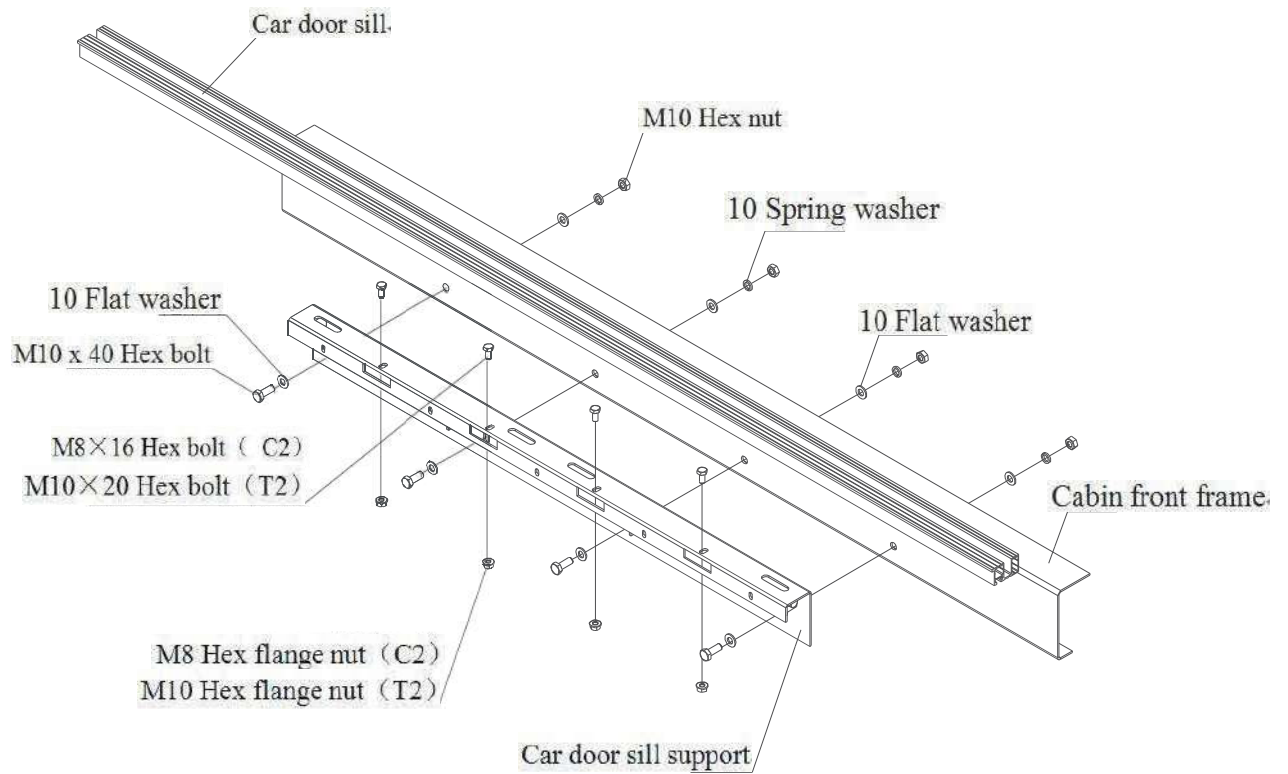

Figure 5-2-1 Connection between the car door sill and the sill bracket, and connection between sill bracket and the car front frame
- 1) Assemble the sill of car door, refer to Figure 5-2-1;